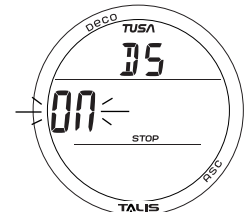

Fig. 39 - SET DEEP STOP
**SET NORM DEEP STOP**, information includes (Fig. 39):